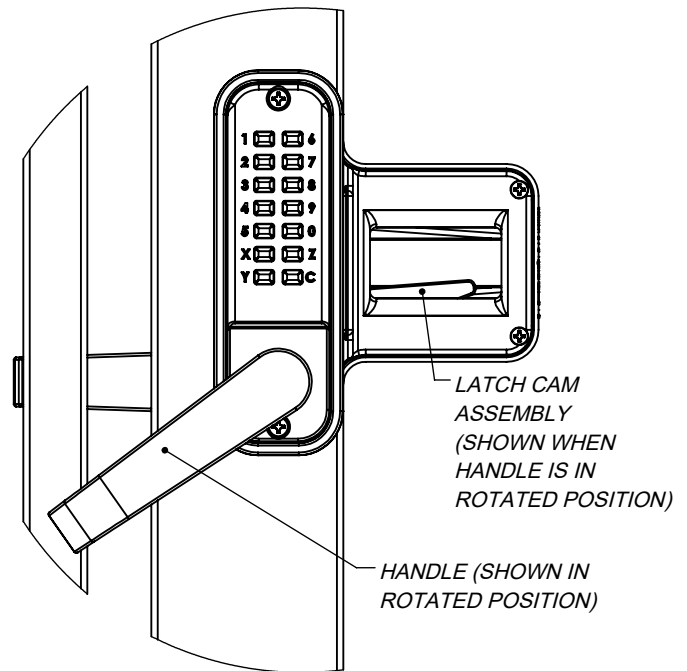

Figure 16
7) Test the KYPD and Adapter Housing for proper function. Enter the code for the KYPD outside body and rotate the handle down. Turning the handle should rotate the Latch Cam Assembly, which can be seen through the rectangular hole in the inside face of the Adapter Housing. Releasing the handle should lower the Latch Cam Assembly back into the neutral position. Repeat this test for the KYPD inside body (Figure 16).